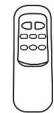

Fig. 2
3. Make the wiring connection as shown in Fig. 1.1 and 1.2. Its position depends on RF receiving condition. (Fig. 2)